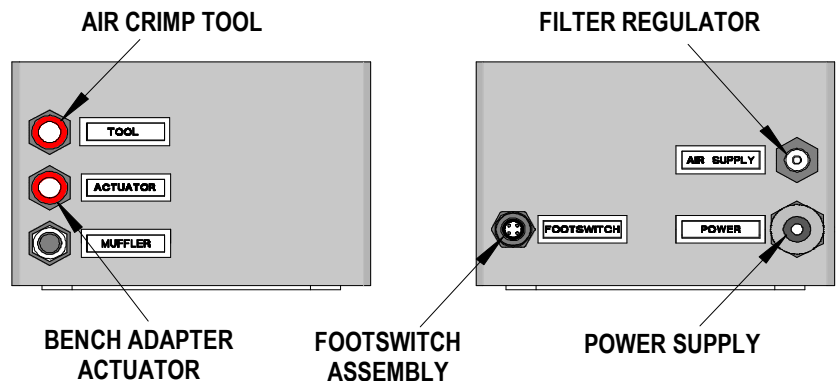

Figure 1
2. Replace with the components, fittings and the tubing. See Figures 1 and 3.
3. Make sure they are correctly connected in the right positions, which are clearly marked on the each side of the Cycle Box in Figure 1.